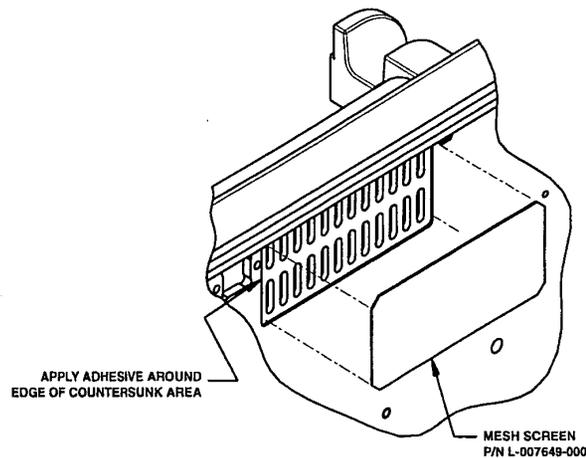

FIGURE 4-33.
1. Apply a small bead of RTV adhesive (GE translucent, 108; P/N L-004213-000) around the edge of the rectangular countersunk area surrounding the air vent slots in the rear extrusion. See Figure 4-33.
2. Install a mesh screen (P/N L-007649-000) into the rectangular countersunk area. Verify the edges of the screen are secured by the RTV adhesive. Remove any excess adhesive. See Figure 4-33.